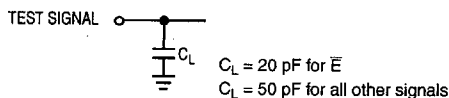

Figure 6-2. Signal Loading for Timing Specifications Unless Otherwise Specified
- The three-state condition is when the device is not actively driving data. Refer to Figure 6-2, Signal Loading for Timing Specifications Unless Otherwise Specified, and Figure 6-5, Test Point Levels for Three-State to Driven Time Measurements, for detailed measurement information.